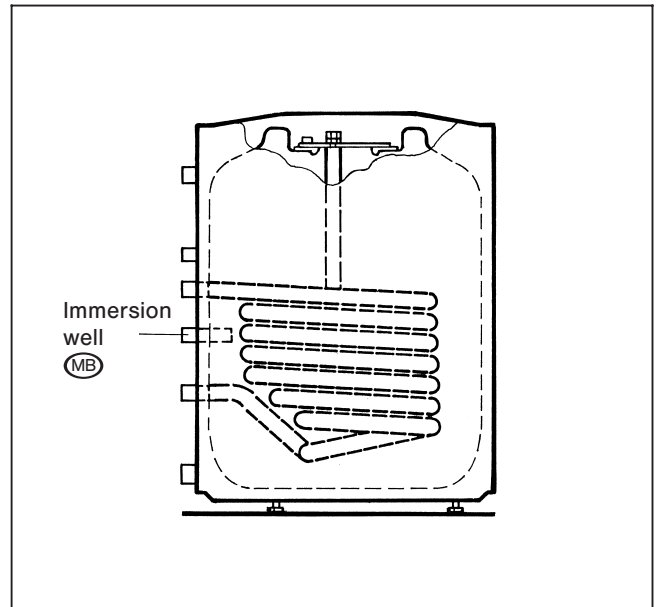

Fig. 7
- Insert the sensor into the immersion well (MB) on the rear side of the calorifier (Fig. 7).